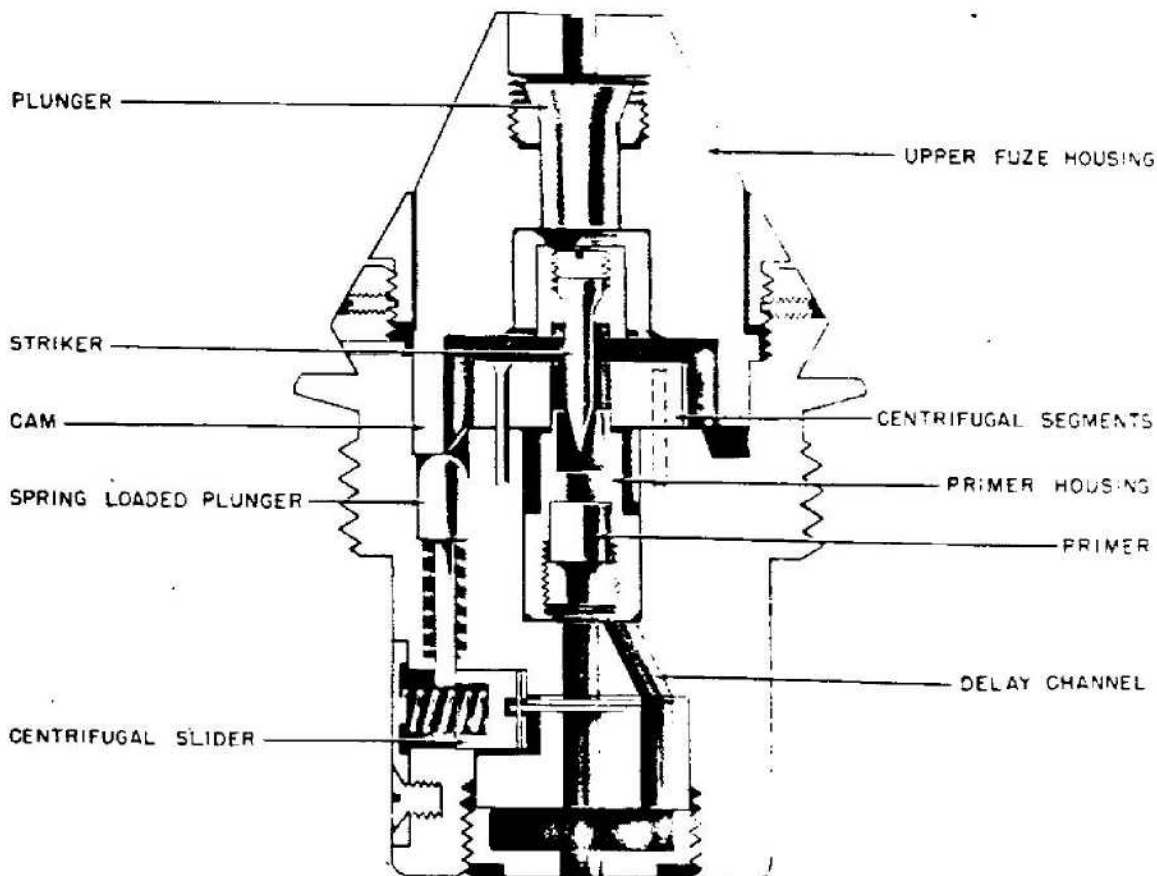

Figure 585—Hbgr. Z. 35 D
**DESCRIPTION:** This fuze is screwed into the nose of the projectile, and a long ballistic cap is fitted over the fuze, screwing directly to the projectile. An actuating rod reaches from the nose cap to the nose of the fuze and transmits the shock of impact directly to the striker. (See fig. 585.)